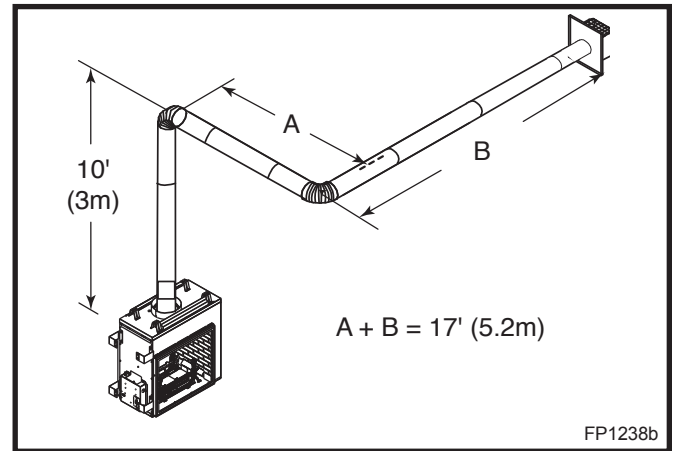

Fig. 17 Maximum vent run with elbows.
- The maximum number of elbow degrees in a system is 270°. (Fig. 17)